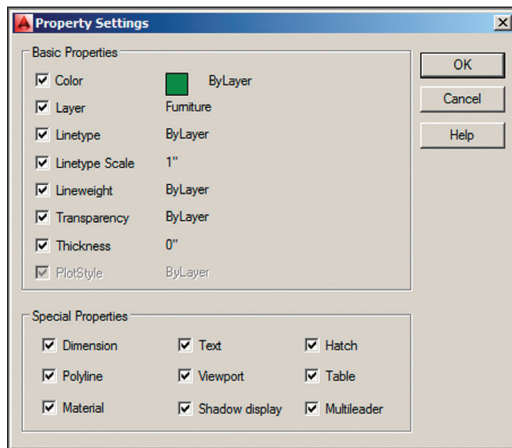

FIGURE 6.11 The Property Settings dialog box allows you to match much more than layers.
- Click Settings on the command line; the Property Settings dialog box appears. You can match many properties in addition to layers with this tool (see Figure 6.11). Click OK.